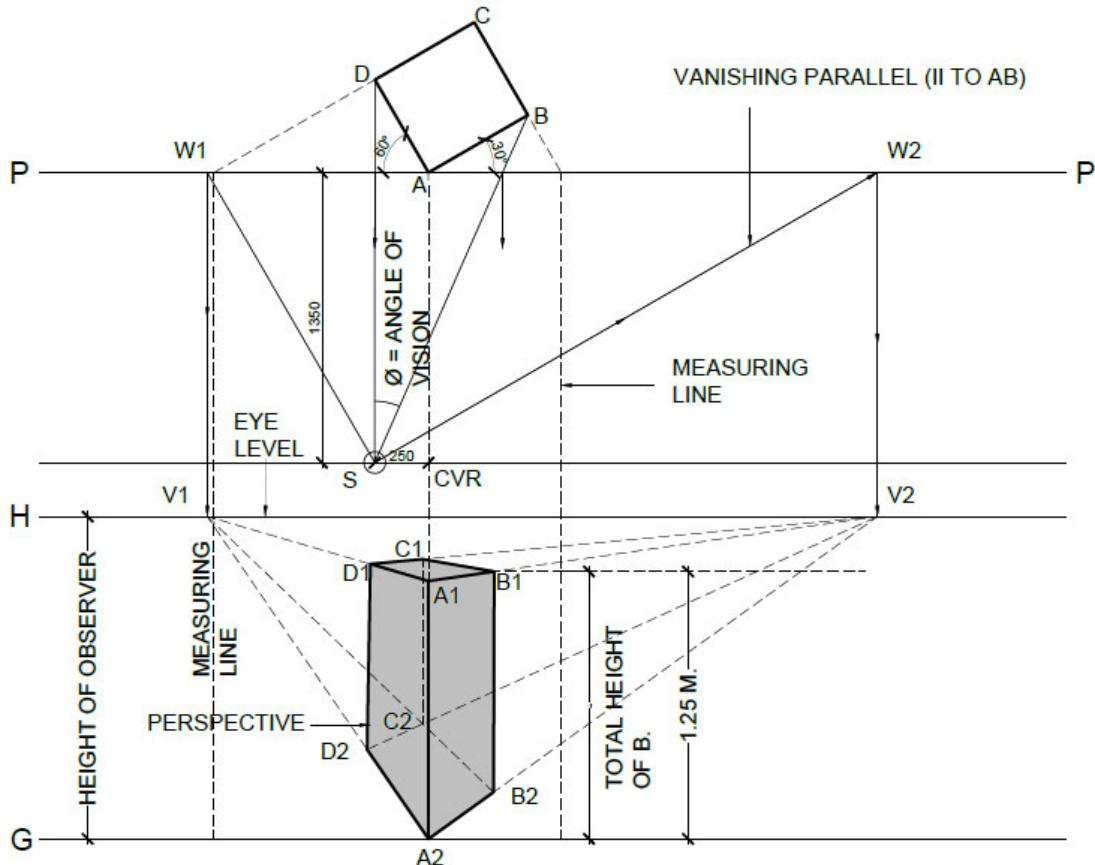

Fig 5.11 Two Point Perspective
1. Assume a line indicating Picture Plane (PP). Object is kept on the ground hence its plan is drawn on line PP. object is making an angle of 30 degree with the picture plane.
4. Draw one horizontal line (HL) above ground level at a height equal to observer's eye level i.e., 1.5m.
6. from S join all the points of object up to PP and then project them vertically downward up to ground level (GL).
7. point A touches the PP hence true height and perspective height of this point will be same. Transfer true height of the object of this line and converge them to vanishing points V1 and V2. These converging lines cut vertical projections of B and D at B1 B2 and D1D2 (upper and lower points of object). Hence sides A1 D1 A2 D2 and A1 B1 and A2 B2 are drawn **Fig 5.11.**